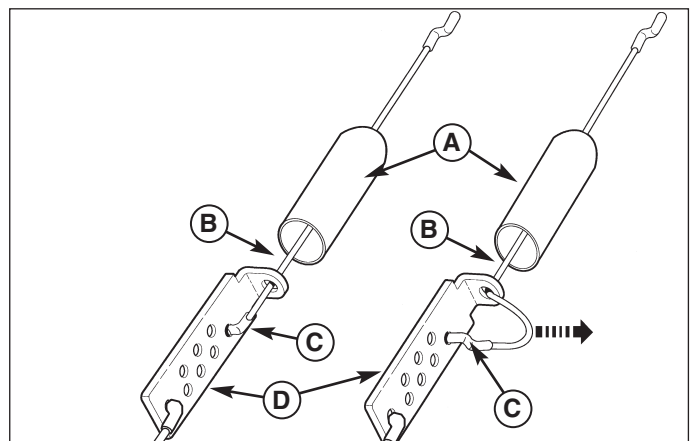

Figure 18. Traction Drive Cable Adjustment
1. Remove the z-hook (C, Figure 18) from the auger drive lever (A).
3. Pull the auger control cable (B) through the eyehole in the cable adjustment bracket (D) as shown by the arrow in Figure 18. This will create enough slack to allow the “Z” hook to be easily removed.
4. Install the “Z” hook (C) into the next available adjustment hole in the cable adjustment bracket (D). This is the adjustment hole located one notch down from where the “Z” hook (C) was previously attached.
5. Pull the auger control cable (B) back through the eyehole of the cable adjustment bracket (D) until all the slack is taken out of the auger control cable (B).
6. Slide the cable boot (A) back down over the cable adjustment bracket(D).
- 7.1 Install the “Z” hook (B, Figure 18) to the auger drive lever (A).